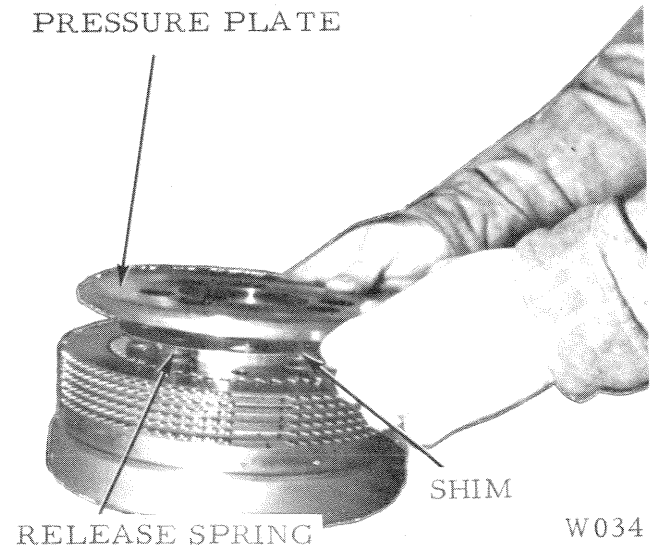

Figure 34
3. Lift the pressure plate and shim off. Remove the release springs. Fig. 34. Note the relationship between the hub, cooling valve, friction discs and separator plates. Fig. 35. Lift the friction discs and separator plates off the hub. Remove the hub.